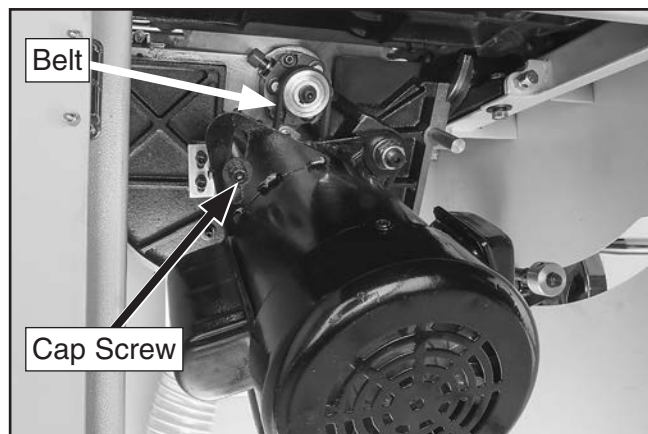

Figure 125. Location of cap screw for adjusting belt tension.
3. Loosen cap screw on motor shown in **Figure 125**, and pivot motor up and down to make sure that it is movable.
3. Loosen cap screw that secures motor (see **Figure 125**) and lift motor fully to remove tension on belt. Tighten cap screw to hold motor in this position, then roll belt off of the arbor and motor pulleys.